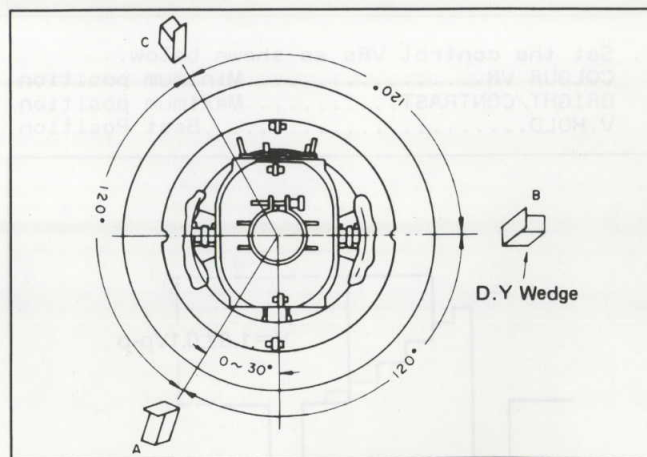

Figure E13
6. Remove the DY wedges in Figure E13 and slightly tilt (do not rotate) the deflection yoke horizontally and vertically to obtain good overall convergence.
7. Secure the deflection yoke by reinserting the wedges as shown in Figure E13.
1. Wedge A shown in Figure E13 should be fixed within a range of 0 degrees to 30 degrees to the left of the vertical line as shown.